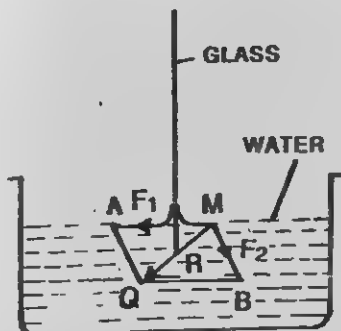

Fig. 28.8. Concave meniscus.
Ans. In Fig. 28.8 consider a molecule 'M' of water. Let force of adhesion (F_1) between the water molecule M and glass molecules and the force of cohesion (F_2) between the water molecule (M) and the rest of the water molecules be represented in magnitude and direction by MA and MB respectively. In this case of water-glass interface, $F_1 > F_2$, consequently the resultant R